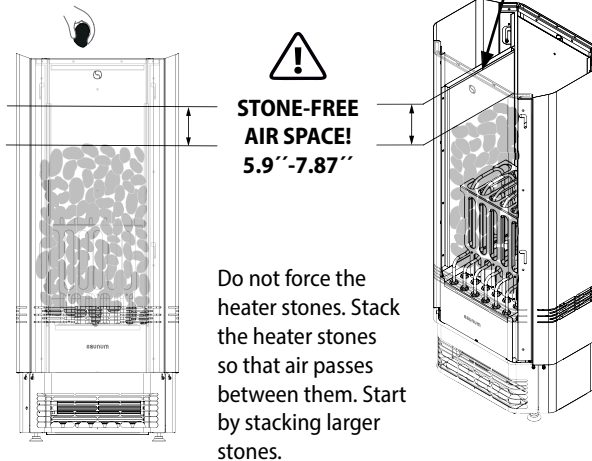

Figure 16
3. Fill the stone basket **by hand** with heater stones up to the openings of the air ducts 5.9'' - 7.87'' as shown **Figure 16**.